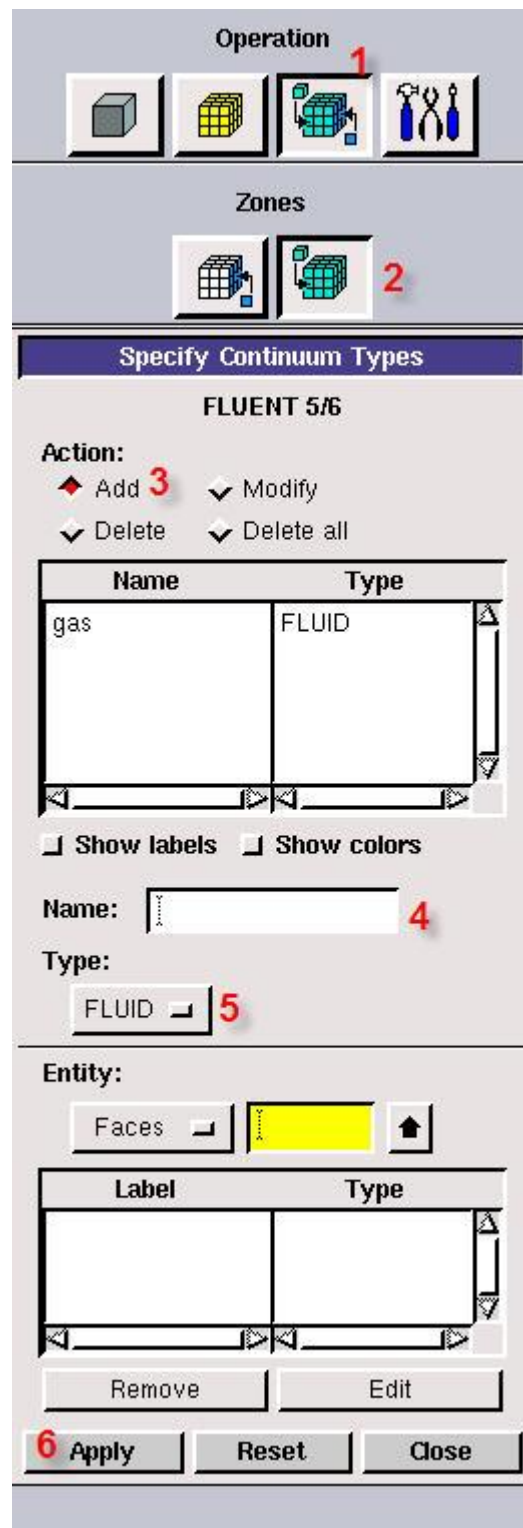

Figure 2.10 Steps to specify an odour/gas source in the simulation domain
Follow the steps illustrated in Figure 2.10 to specify the location of the odour/gas source. In **Operation Toolpad**, select **Zones Command Button (1)** >> **Specify Continuum Types Command Button (2)** >> press **add (3)** >> give a name for the source **(4)** >> **select the appropriate continuum type (5)**, here “Fluid” type is chosen >> use hot keys “**shift + mouse left click**” to choose the face where a source was located as illustrated in Figure 2.6 >> press **Apply (6)** to complete the operation.